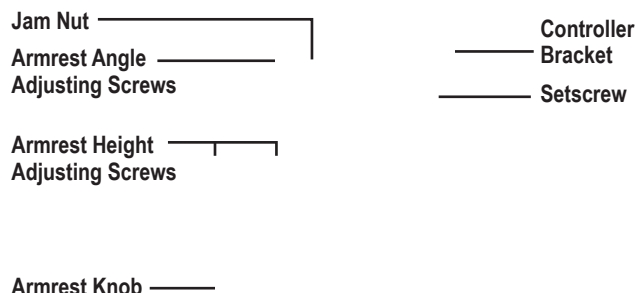

Figure 13. Seatback/Armrest Adjustment
1. Locate the two armrest knobs on each side of the armrest receiver bracket. **See figure 13.**
1. Lift the armrest straight up so that it is perpendicular to the floor. **See figure 13.**
2. Loosen the setscrew on the controller bracket. **See figure 13.**